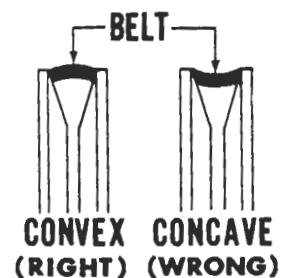

Figure 16
16. Adjust motor belt by loosening four nuts (G) and moving motor assembly until belt is properly adjusted -- steps 13 and 14 above.
17. When properly tensioned, belts should be slightly convex -- refer to figure 16.